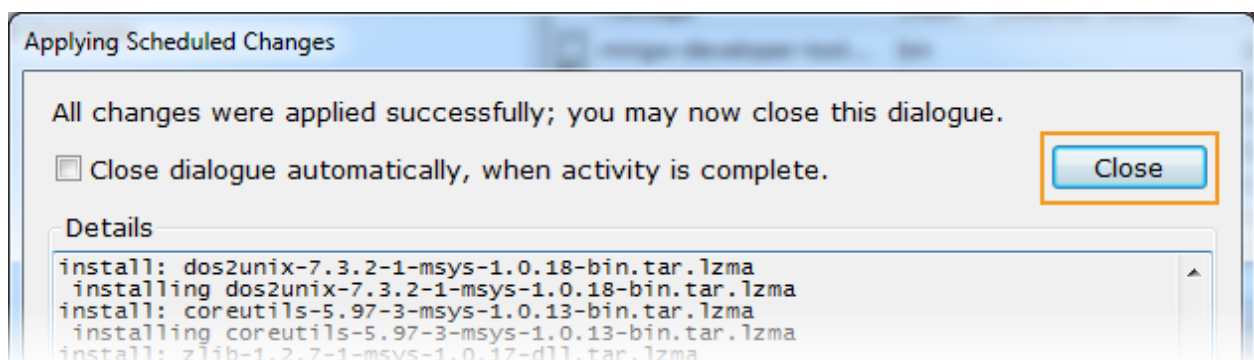

Figure 7. Applying scheduled changes
| Figure 7. Applying scheduled changes | 6 |
- 8) Click **Close** to close the dialog window once the operation is complete (see Figure 7).